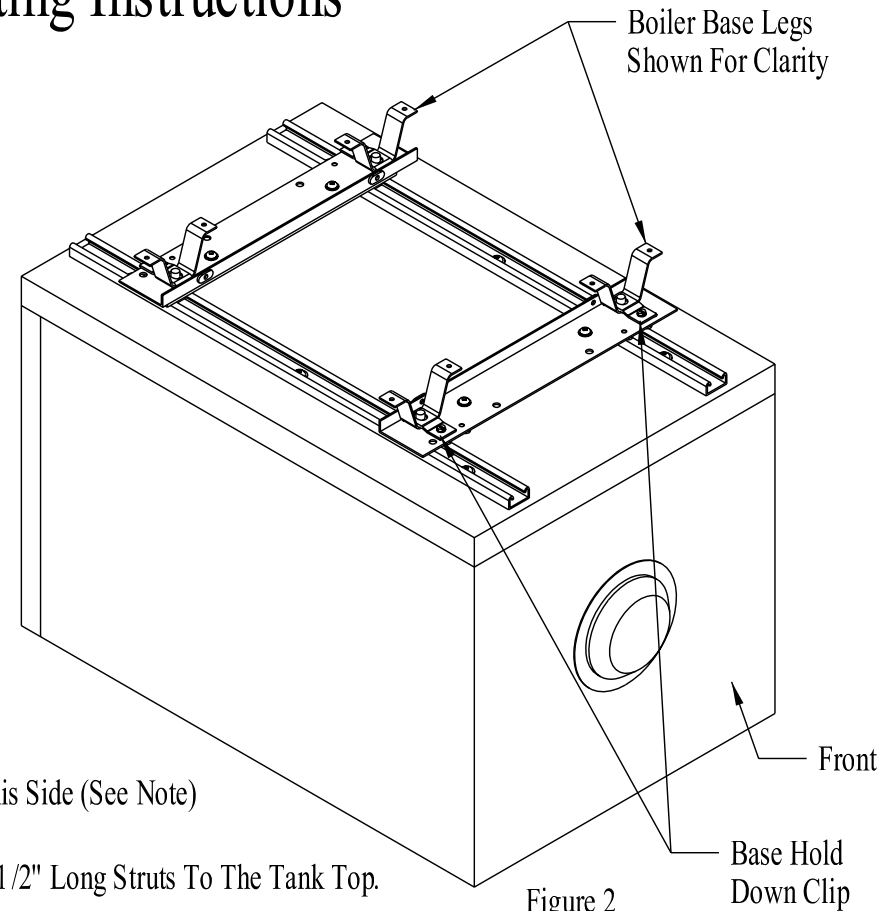

Figure 2
- (5) Set The Boiler On The Mounting Plates With The Boiler Base Legs As Shown In Figure 2 And Fasten With The Boiler Hold Down Clips and 1/4 - 20 x 3/4" Slotted Hex Screws Also Shown In Figure 2.